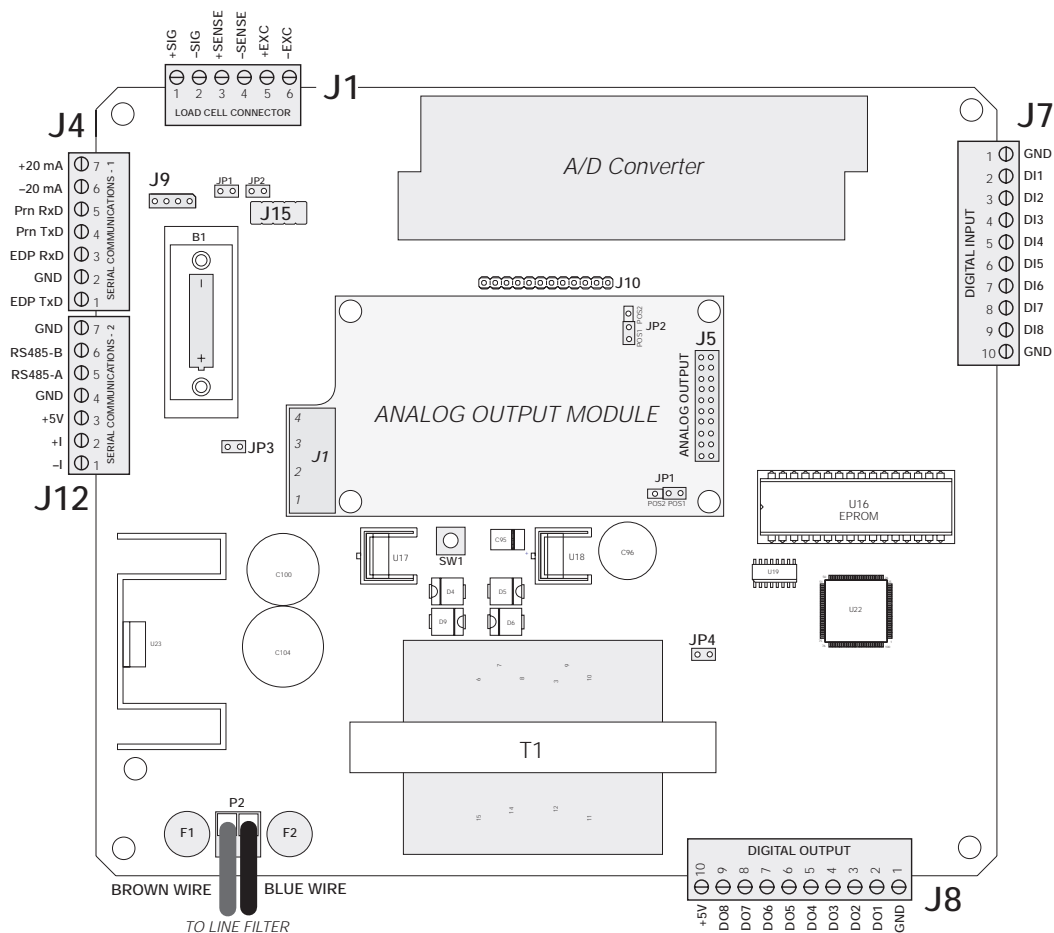

Figure 4. Analog Output Module Installation on IQ plus 510/710 Board
Mount the analog output module on its standoffs in the location shown in Figure 4 and plug the module input into connector J5 on the IQ plus 510/710 board. Connect output cable to the analog output module as shown in Table 2, then reassemble the enclosure as described on page 4.
**NOTE:** Ensure jumpers JP1 and JP2 on analog output board are installed in position 1 (POS1) as shown in Figure 4.